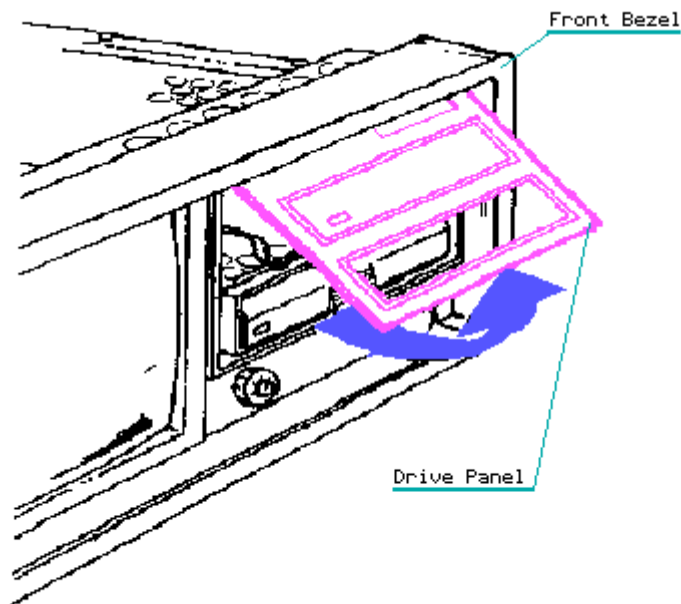

Figure 7-54. Removing the Drive Bezel from the Front Bezel
3. Using a screwdriver, gently pry the drive bezel from the front bezel (Figure 7-54). This exposes the installed mass storage devices.